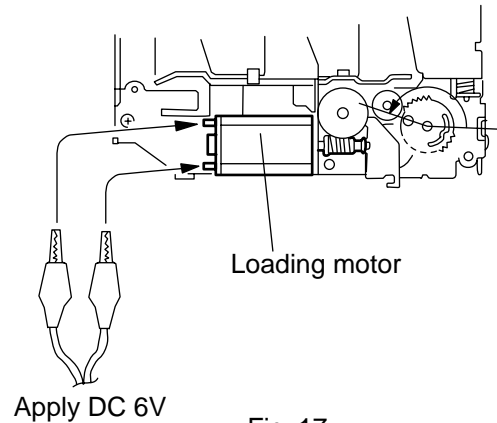

Fig.17
8. After the installation, apply DC 6V to the lead wires of the loading motor ass'y to locate the load gear ass'y as shown in Fig.17.